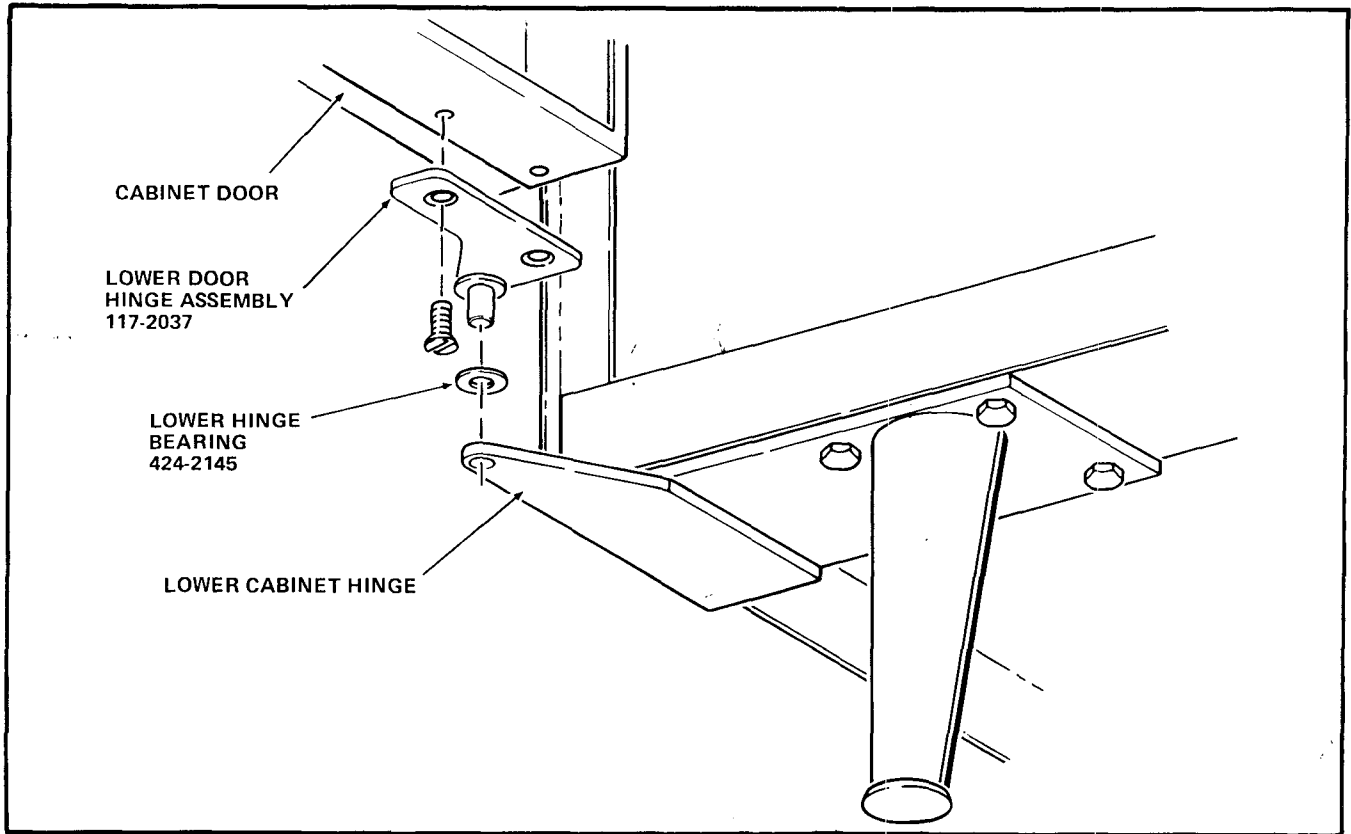

FIGURE 6
12. Install the Lower Hinge Bearing, part number 424-2145, and the replacement Lower Door Hinge Assembly, part number 117-2037, on the Lower Cabinet Hinge as shown in Figure 6. Both parts are included in kit.
13. Move the Cabinet Door to align the holes in the door with those in the replacement Lower Door Hinge Assembly. See Figure 6.
14. Attach the replacement Lower Door Hinge Assembly to the Cabinet Door with the two Screws and Nuts removed in Step 9. See Figure 6.